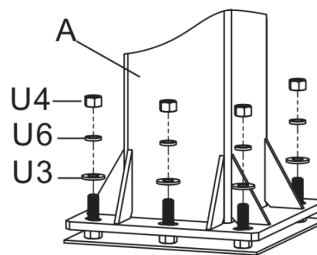

FIGURE 1B
- Remove the Padding from Main Post (A). Place the Main Post (A) over the J-Bolts. Slide a 18mm Thick Washer (U3), a Lock washer M18 (U6) and thread a 18mm Hex Nut (U4) to each J-Bolt. Tighten the nuts only a few turns onto the J-Bolts as shown in FIGURE 1B.
- If the Main Post (A) is not exactly vertical, adjust the 18mm J-Bolt Hex Nuts (U4) located under the Post Base. Tighten all of the Hex Nuts (U4) above Post Base when Main Post (A) is vertical.